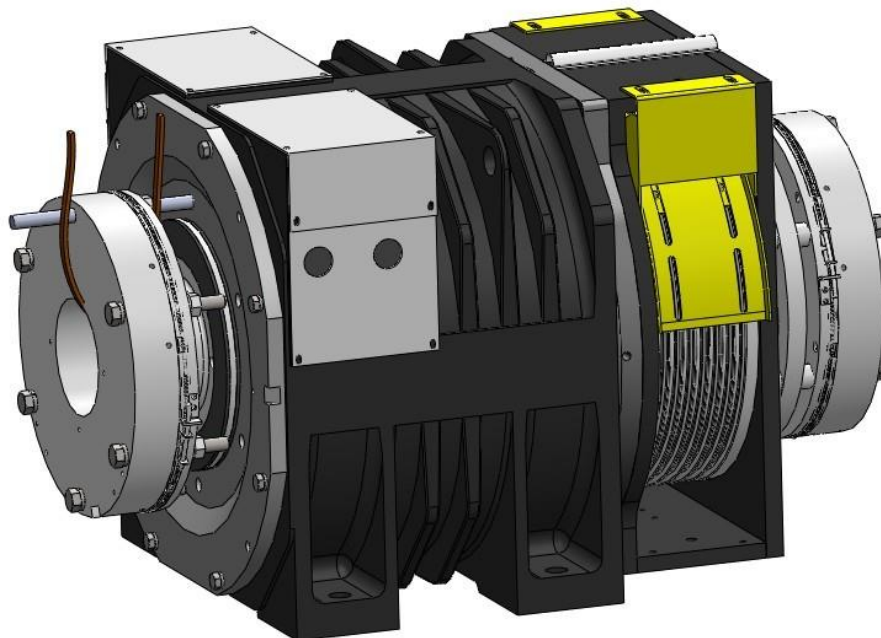

Figure 44: Removing Normal Brake
6. Remove other 5 bolts M16x165 evenly, move out the normal brake; and then hoist out the brake with hoisting ropes and remove brake coil body and friction lining. See Figure 44.